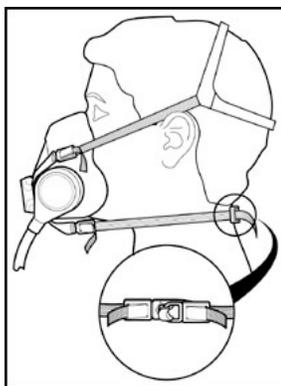

Fig. 21
4. Take the bottom straps in both hands, place the straps around the back of the head and hook together. (Fig. 21)